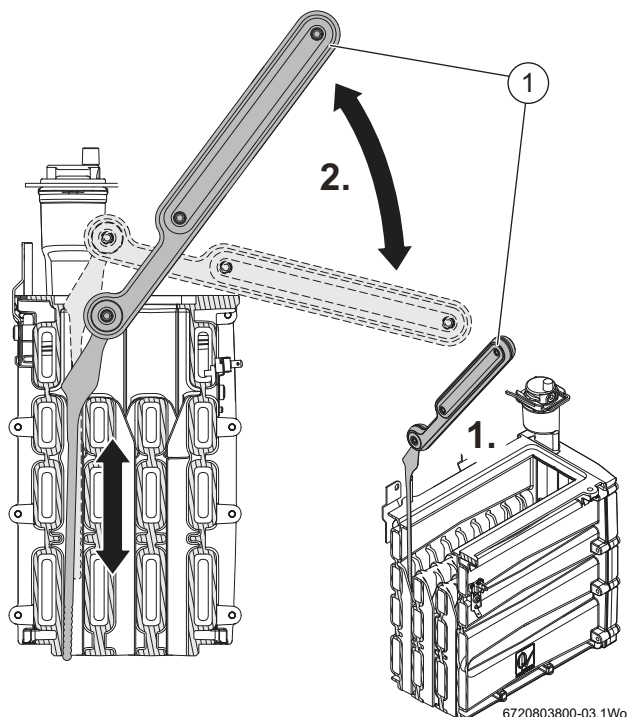

Fig. 66 Heat exchanger cleaning tool
1. Orient the cleaning tool (2) as shown in figure 66 and insert the tool into the rear or middle channels for cleaning.